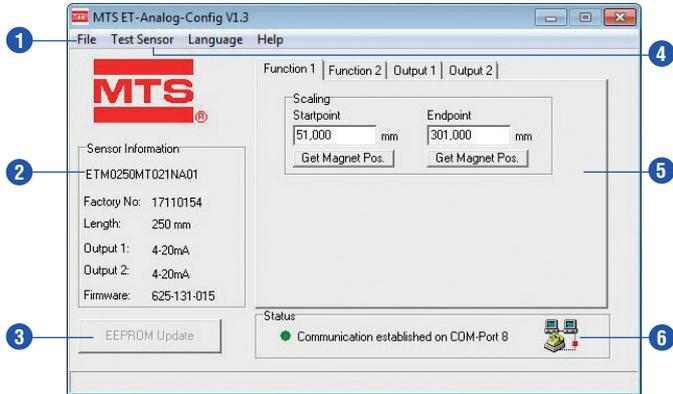

Fig. 33: MTS ET-Analog-Config V1.3, Function 1
After starting the program, the user interface of the connected sensor with its adjustable parameters will open (Fig. 33).
- 1 In the **File** menu the sensor configuration can be saved on hard disk, printed out or loaded into the sensor4. Moreover, this menu permits returning to the factory setting (Fig. 33).
- 2 **Sensor Information** contains the invariable sensor parameters, which were read in automatically when connecting the sensor. (Fig. 33).
- 3 Any changes which were made are shown with dark background. By clicking on **EEPROM Update** the altered parameters are stored in the sensor permanently. Subsequently, the stored values are displayed again with a white background (Fig. 33).
- 5 The control tabs of the main display section permit allocation of functions to the sensor outputs. The measuring range of the functions will be determined in **Scaling** (Fig. 33).
- 6 **Status** indicates that the sensor is connected successfully (Fig. 33).